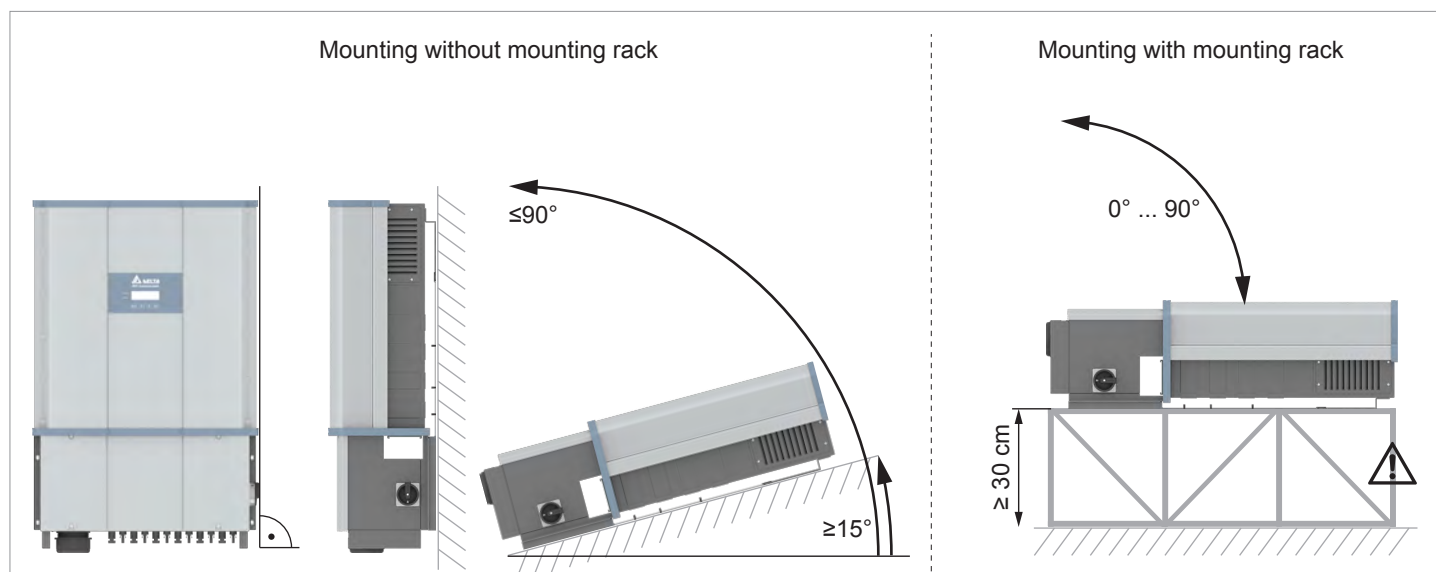

Fig. 5.21: Mounting alignment
- Mount the inverter exclusively in the installation positions shown in “Fig. 5.21: Mounting alignment”, page 24. No other installation positions are permitted.